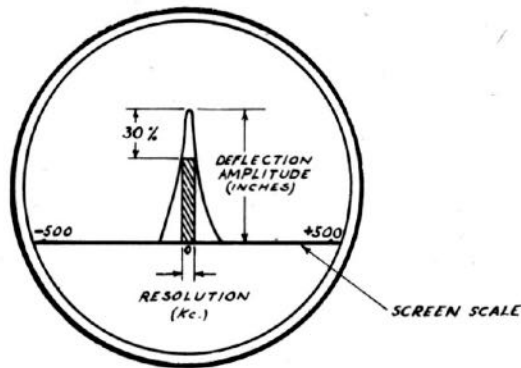

FIG. 6
- 3.08 Resolution (Fig. 6), is the visual equivalent of selectivity and is represented by the frequency difference between two signals of equal amplitude which intersect 30% down from their peak amplitude. It can be said that the resolution is "better" as this frequency difference decreases.